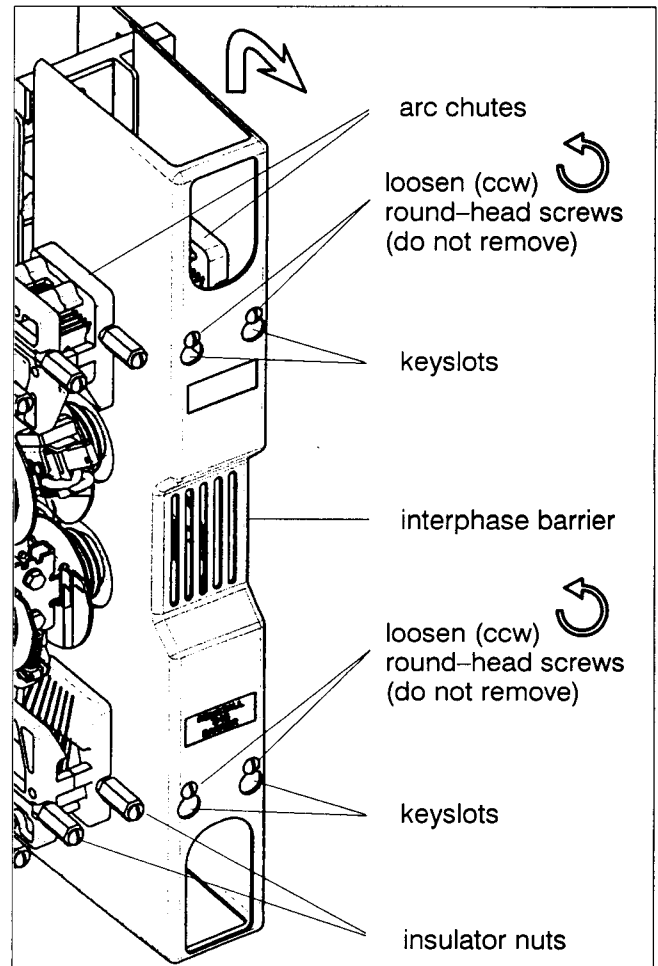

Figure 3-14. Interphase barrier removal.
3. **Remove the interphase barriers** (Figure 3-14). Use a blade screwdriver to loosen (ccw) four round-head screws holding each barrier to the arc chutes. Slide barrier up until keyholes clear the round-head screws, then remove it.
4. **Remove the arc chutes.** Use a 5/8" nutdriver to remove (ccw) two long insulator nuts. Then pull the arc chute outward (off the long threaded rods). See Figure 3-14.
Slide the arc chute (arc splitters toward the contacts and recess for nuts outward) between the two long threaded rods. Reinstall the two long insulator nuts (round shoulder in) and use a 5/8" nutdriver to GENTLY tighten (cw) until snug. Do not overtighten these nuts. See Figure 3-14.
Install the barrier over the arc chutes and slide it up until the four round-head screws align in the four keyholes in the barrier. Then slide the barrier down. Use a blade screwdriver to tighten (cw) the four round-head screws to secure the barrier to the arc chute insulator nuts. See Figure 3-14.